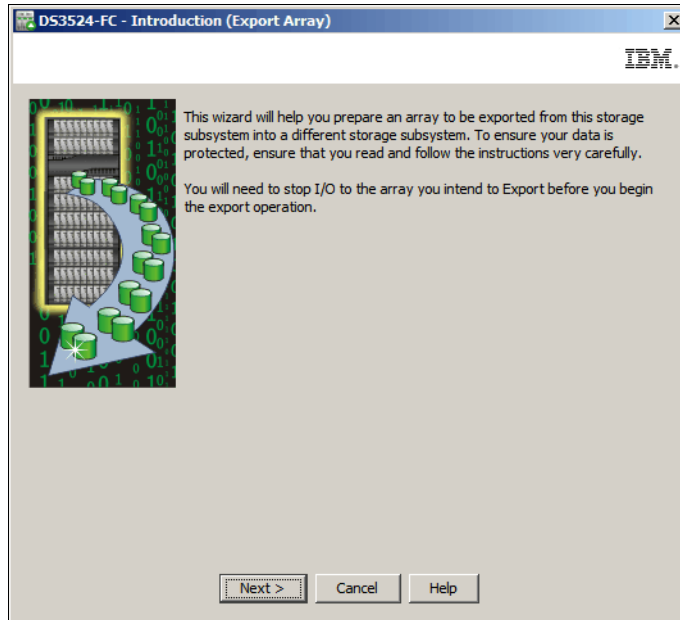

Figure 14-102 Introduction (Export Array)
2. The Introduction (Export Array) window opens as shown in Figure 14-102 on page 394. Read the information and click the **Next** button to continue.